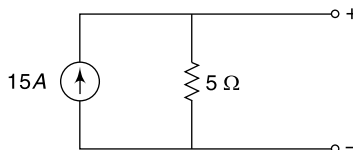

Fig. 4.68 Circuit of Ex. 4.45
4.45 Convert the constant current source of Fig. 4.68 into equivalent voltage source.